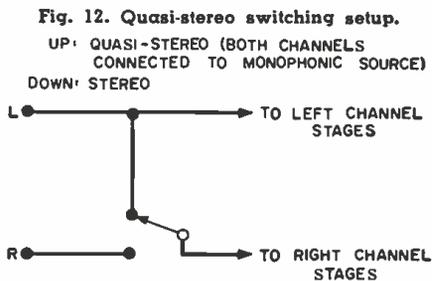

Fig. 12. Quasi-stereo switching setup.
4. **Quasi-Stereo Switching:** This feeds the left (or right) signal to both channels, as shown in Fig. 12, permitting one to hear a monophonic source on both speaker systems, thus providing a quasi-stereo effect. While a system that provides monophonic disc switching (Item 3) in a sense also permits quasi-stereo switching, the reverse is not true. For example, some stereo amplifiers can feed the left signal to both channels but they cannot also feed the right signal to both channels. To sum up, it may be desired to feed both signals to both channels (monophonic disc switching) or it may be desired to feed one signal to both channels (quasi-stereo).